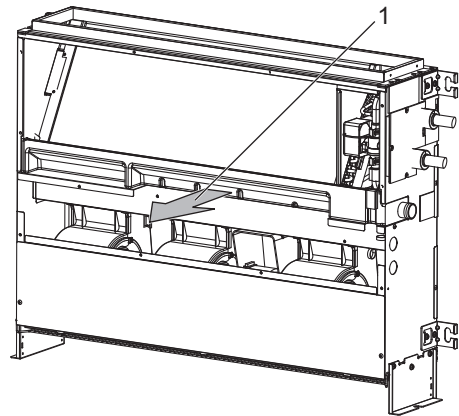

Fig.12
- (1) Pull out the drain pan in the direction of the arrow 1. (Fig.12)